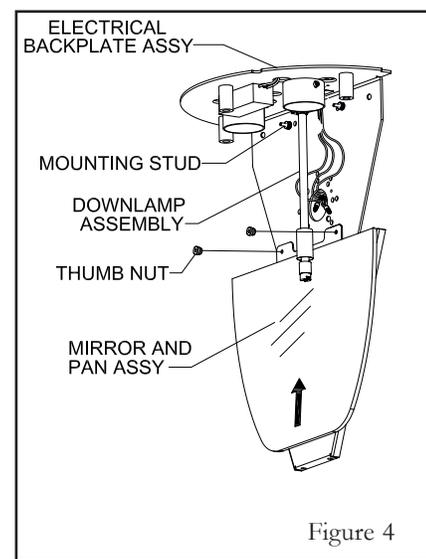

Figure 4
Step 5 Install the mirror bracket assembly. Orient the mirror assembly behind the downlamp stem and raise towards the mounting studs. Align the lower bracket over the bottom studs and lift into position, carefully route and conceal the wires behind the mirror assembly. Secure the mirror assembly into position with thumb screws. (See Figure 4)